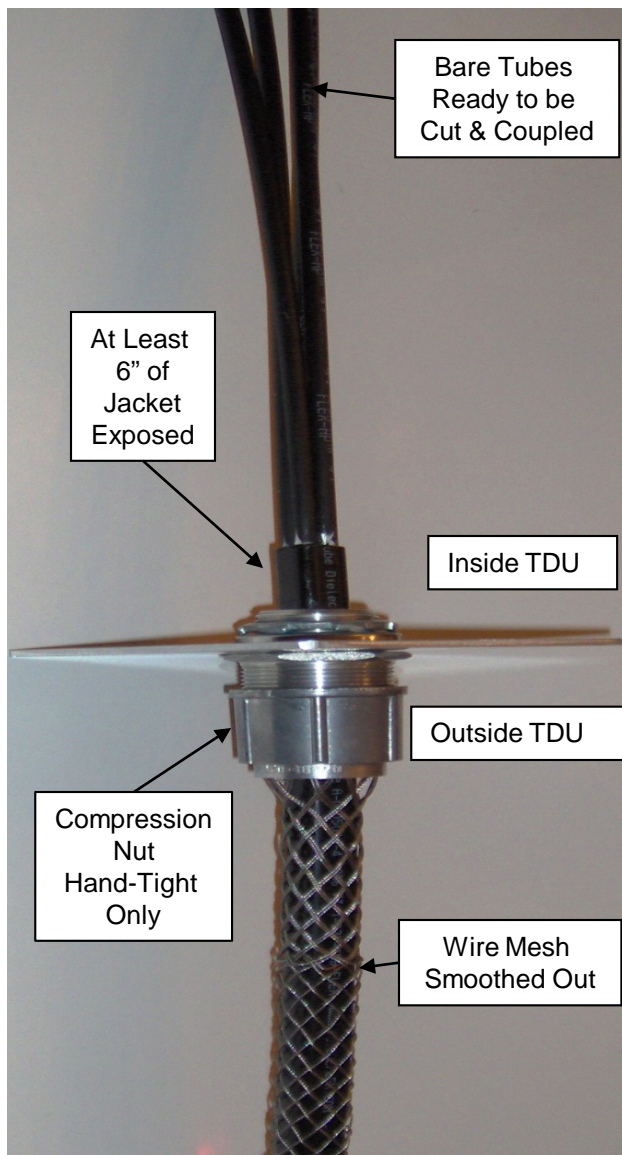

Figure 9
8.4 Slide neoprene bushing, wire mesh, and compression nut forward until they mate with body's threads. **See Fig. 9.**